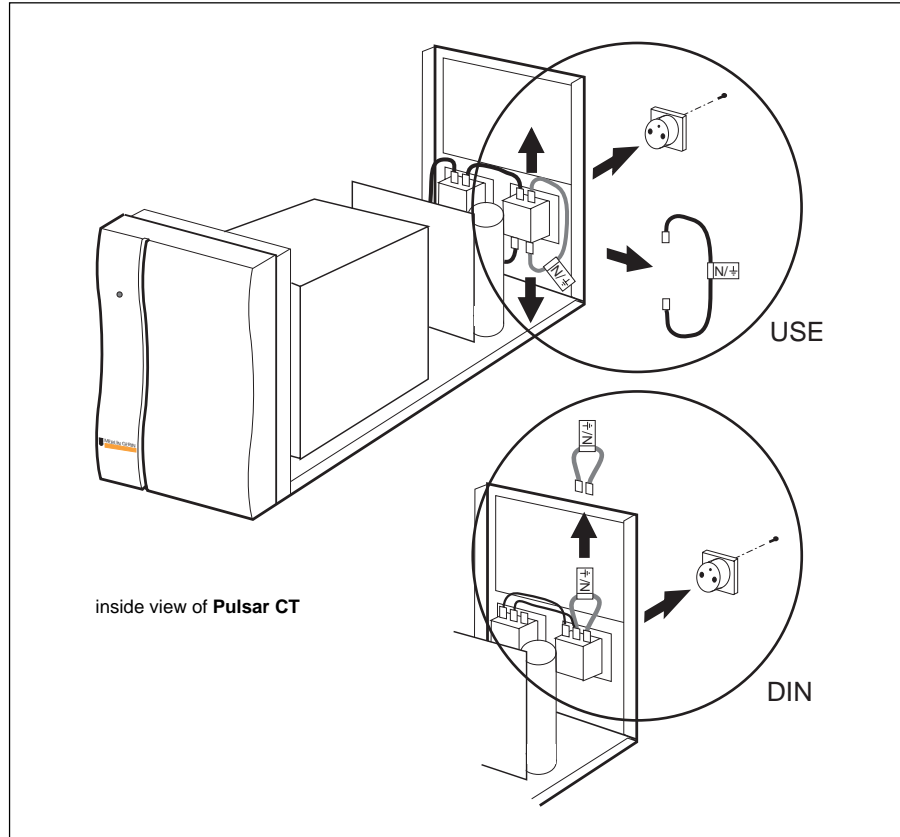

Fig 2
- remove the load receptacle cover (fixed by a screw, see fig. 2),
- remove the wire marked N/\perp as shown on the figure 2,